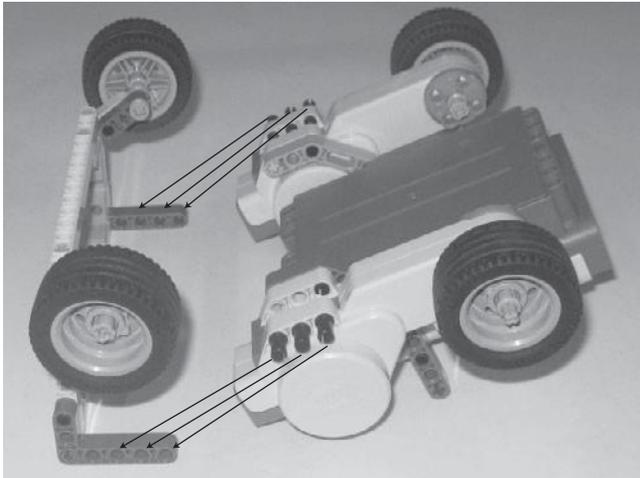

Figure 9.21
Step 2—As shown in Figure 9.21, connect the robot's rear wheel chassis to the robot by connecting its $3 \times 5M$ perpendicular beam to the left and right servo motors using the two sets of connector pegs with friction that are already connected to the servo motors.